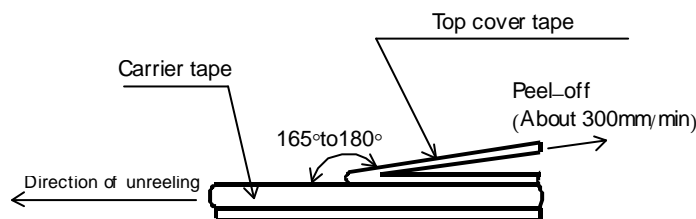

Figure-10
- 5). The peel strength of the top cover tape shall be with in 0.1N to 0.5N on the test method as shown in the following Figure-10.